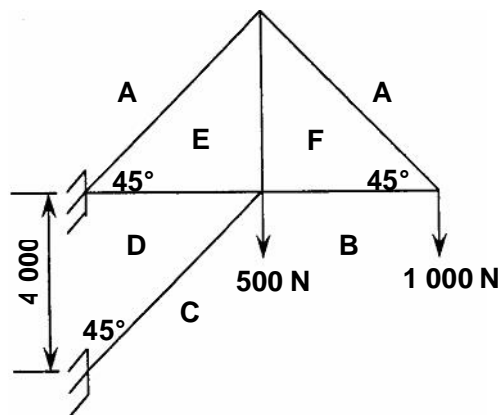

Figure 1
2.1 **Figure 1** shows a line diagram of a cantilever roof truss. The roof truss is subjected to two vertical point loads. Draw the space diagram to a scale of 10 mm : 1 000 mm and complete the questions below.